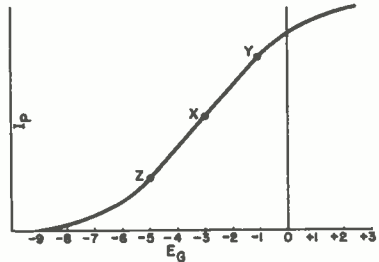

FIG. 6. Typical E_g - I_p Curve.
Of course, as you already know, the E_g - I_p curve of a tube is not a straight line, but is instead shaped more like the curve shown in Fig. 6. Only the portion of the curve between Z and Y is straight—the rest is definitely curved. Therefore, not all the E_g - I_p tube characteristic is linear. What does this mean?
Before we take up a practical example, notice the scale at the bottom of Fig. 6. Since grid voltage values may be either positive or negative, zero (0) on this scale is not at the lower left-hand corner, but is instead moved over near the right end of the bottom scale. Positive numbers go from zero towards the right, while negative numbers go from zero to the left.
It is common practice to select the mid-point of the straight part of the characteristic (between *Z* and *Y*) as the operating point. This is point *X* in Fig. 6. Tracing down from *X* to the bottom scale, we find we will need to use a bias value of -3 volts to operate at this point.